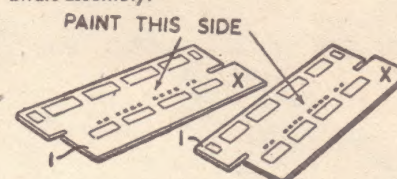

Fig. 1—Painting the sides
Take the two sides No. 1 and lay side by side, as shown in Fig. 1. The uppermost sides must now be painted cream or white. Notice particularly that when these sides are assembled, the painted parts will face each other, and the projections marked X in Fig. 1 will be at opposite ends of the model, and will cover the stairs.
Now fit the sides to the top floor (No. 2) so that the painted sides are facing each other. This will bring the extending pieces marked X in Fig. 1 at opposite ends of the floor. Now glue in place the lower floor (3) pieces 4 and 5, and